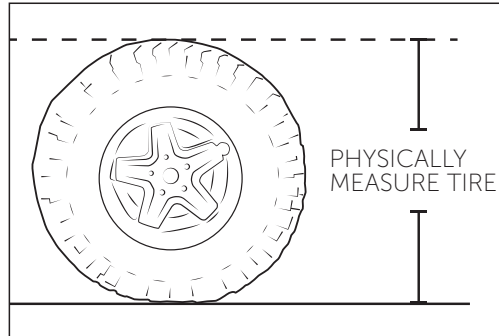

Figure 1
1. Physically measure the diameter of the tire you are using. DO NOT go off the advertised size listed on the sidewall (fig. 1) ex: *37 x 12.50 Tire measures 36"*.